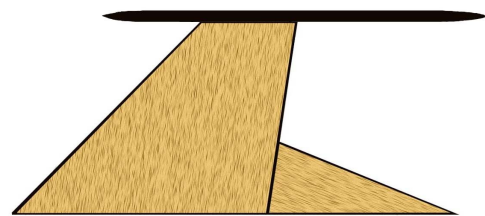

Figure 8
- Step 10** Cut the 12" dowel into 4 equal-length pieces (3" each). Taper one end of each dowel about 3/8", and the other end about 1/4", then smooth out the tapers with 220-grit paper. As shown in Figs. 8 & 9, attach the probes to the top of the main and vertical fins as shown. The probes should have the long taper pointing forward, and the rear 3/4" of the probe should fall behind the trailing edge of the fins. Set these aside to dry.